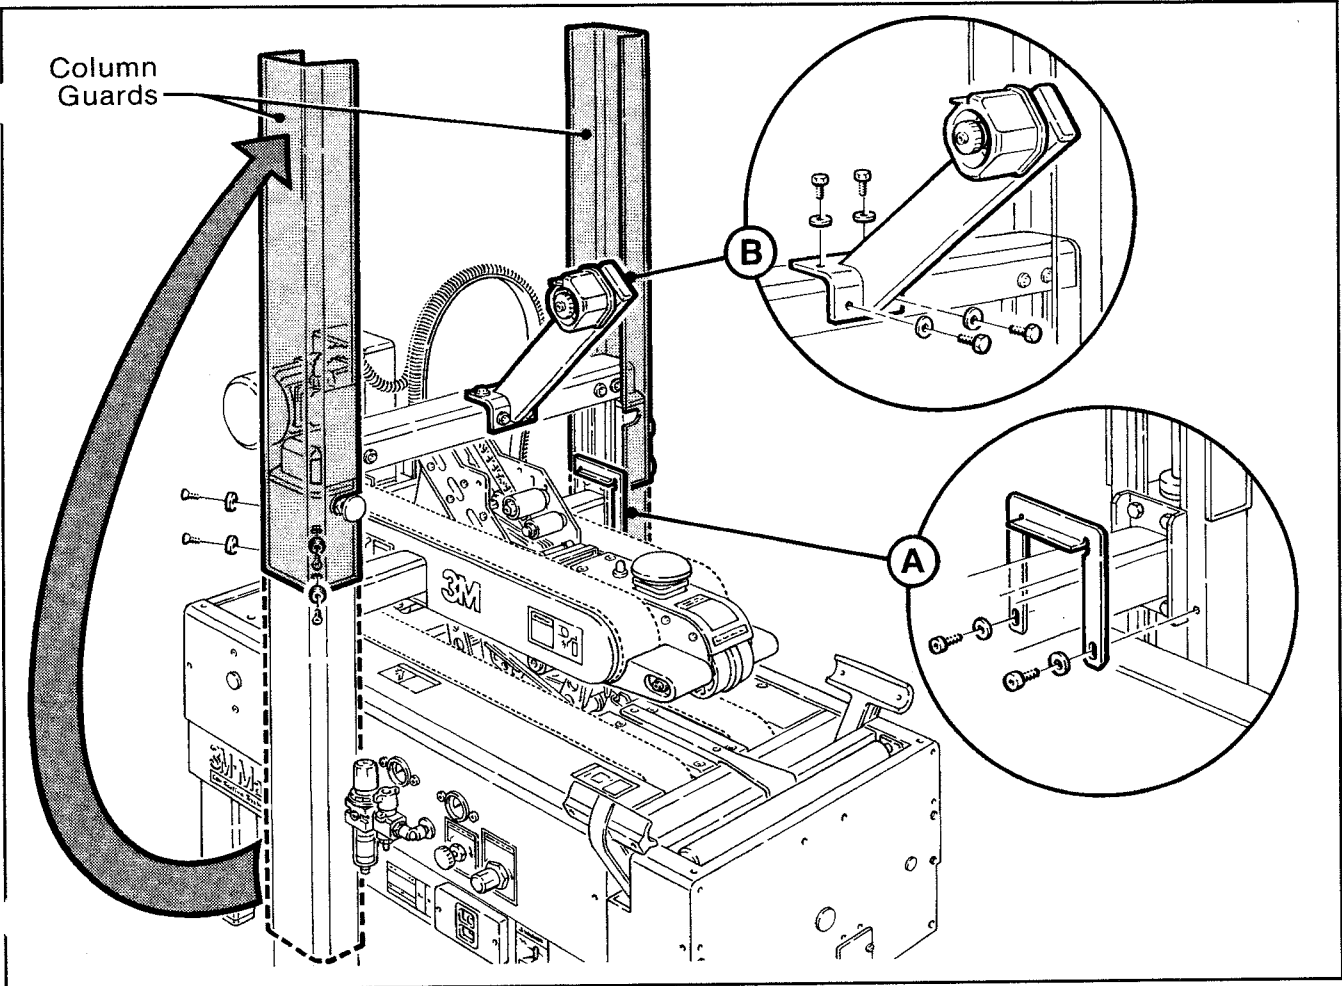

Figure 2-2 - 700r Frame Set-Up
4. The plastic column guards, shown in Figure 2-2, have been installed upside down for shipping. They must be reversed for safe operation of the machine. Remove and retain the screws and washers holding the plastic guards on the columns. Remove the protective plastic film from the guards. Rotate the guards 180° and install back on the columns as shown. Replace existing screws and washers to secure the guards in place.